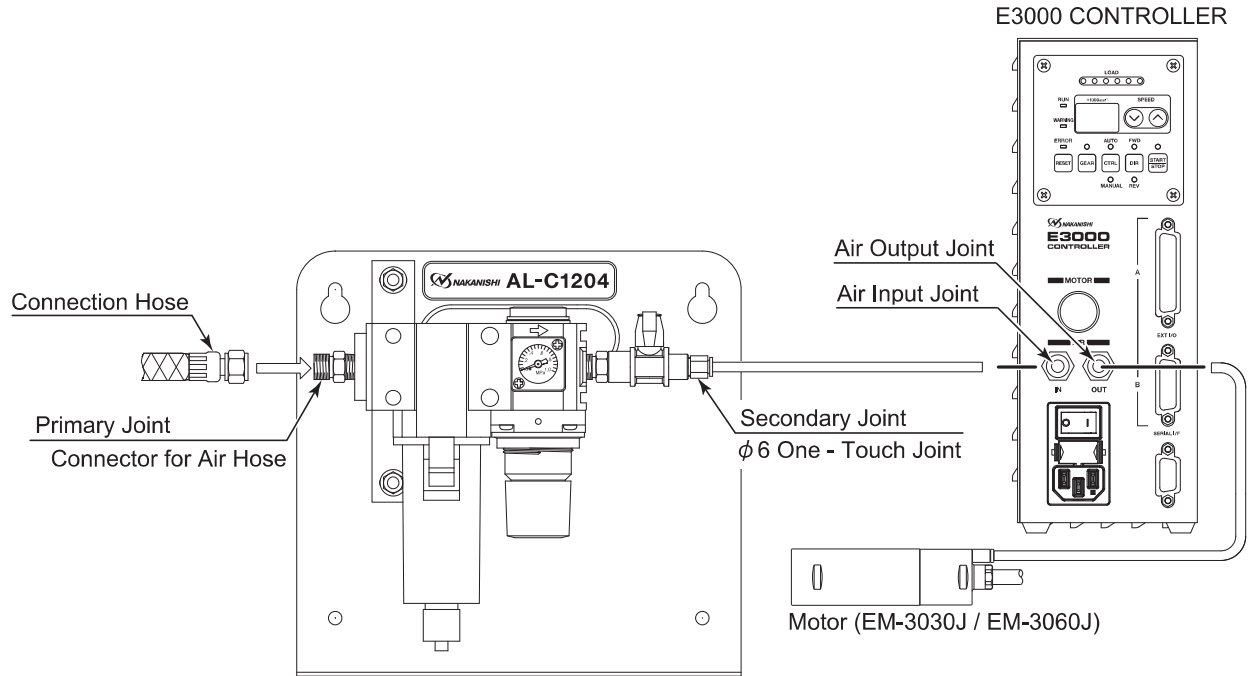

Fig. 6
- (1) Connect the ϕ 6.0mm Air Hose to the Primary Joint.
- (2) Connect the ϕ 6mm air hose to the Secondary Joint to the Air Input Quick Disconnect on the front of the CONTROLLER.
- (3) Insert the ϕ 6mm - ϕ 4mm Conversion Adaptor into the Air Output Quick Disconnect on the front of the CONTROLLER. Insert the ϕ 4mm air hose from the ϕ 6mm - ϕ 4mm Conversion Adaptor to the 4mm Quick Disconnect on the back of the motor (ϕ 6mm - ϕ 4mm Conversion adaptor : CONTROLLER's Standard Accessories). (Fig. 6).